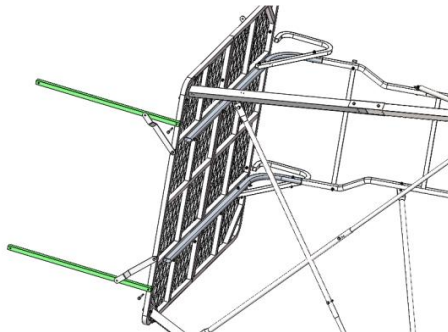

Figure 15
Step 14: Attach the two platform vertical rails (TS305.11) to the platform by using two 1/4"-20×2" bolts (48153B) and two 1/4" lock nuts (48752B). Leave these hand tight for now (**Figure 15**).